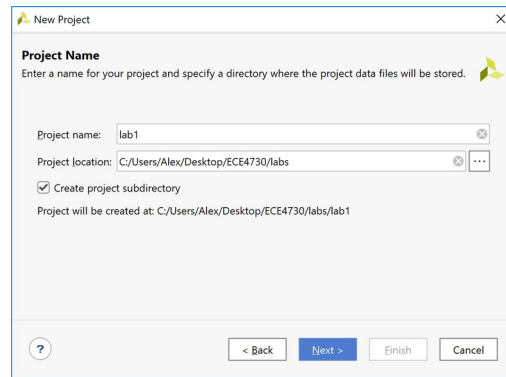

Figure 1: Create New Project
- (c) The New Project Wizard opens. Click Next. (Figure 1).